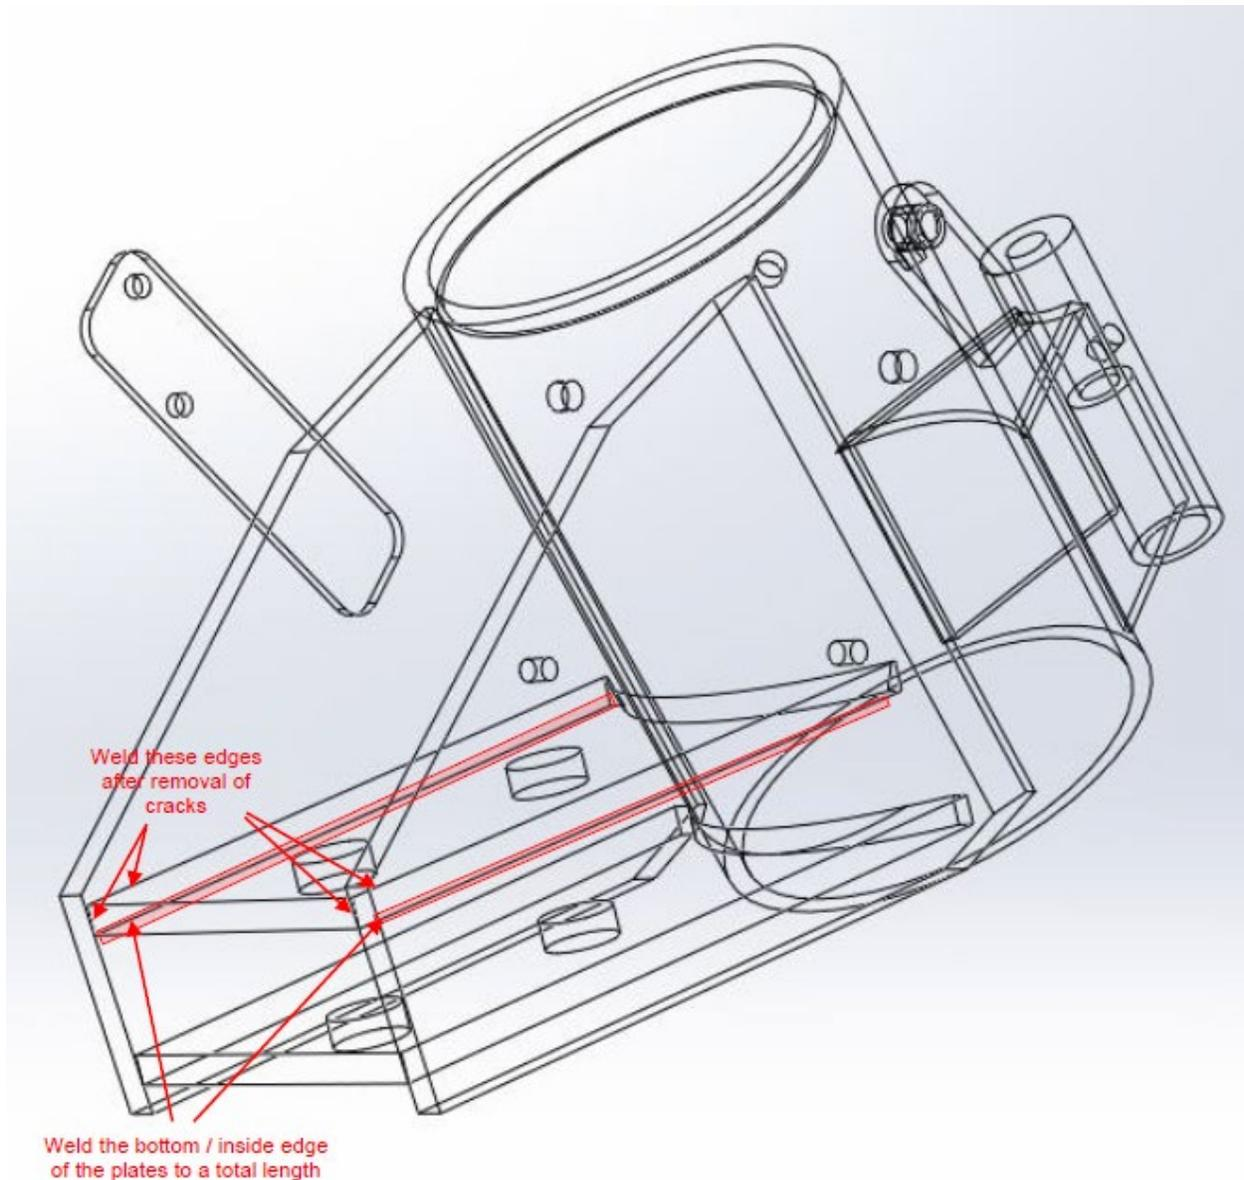

Figure 2
- Restore integrity of welds following accepted procedures. See Figure 2 for details of location of weld. Use MIL or equivalent spec.